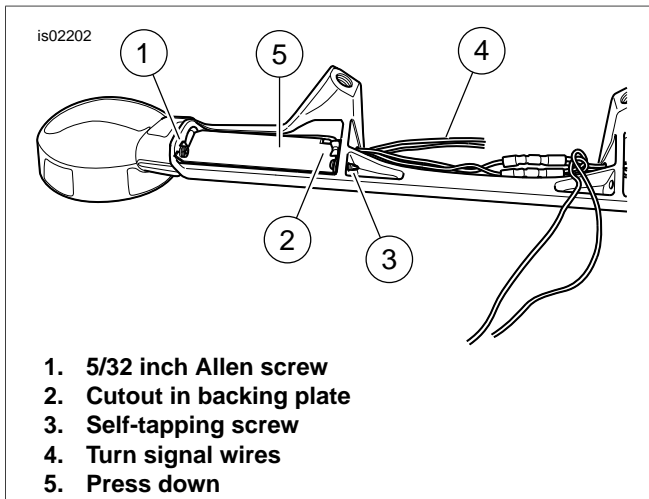

Figure 3. Assembling Directional Bar
6. See Figure 3. Position directional bar in mounting location at rear fender. Route turn signal wires from motorcycle back into directional bar and mate connectors. If the wires were removed from the connector in Step 2, insert the terminal ends of the wires into the connector until they snap in place, then mate connector halves.